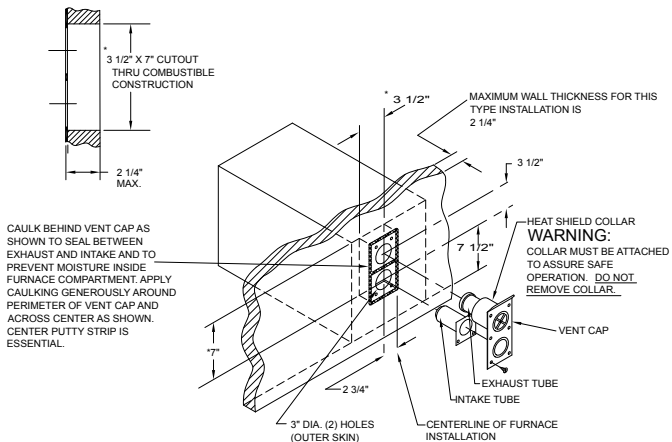

Figure 2
1. Apply caulking to RV skin behind vent cap as shown in Figure 2. Apply caulking generously around perimeter of vent cap and across center as shown.
2. Insert intake tube through RV skin and slide it onto the furnace intake (See Figure 2.) Minimum tube overlap of 1/2" is required.
3. Insert the vent cap assembly with heat shield collar through the 3" diameter hole in the RV skin as illustrated in Figure 2. Slide vent cap exhaust tube onto furnace exhaust. Minimum tube overlap of 1 1/4" is required.
4. Attach vent cap assembly to outer skin of RV with the six (6) screws provided. Do not install vent assembly upside down. The word "Suburban" must be right side up.